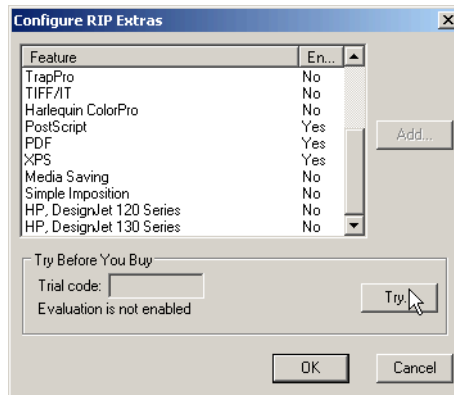

Figure 3 Configure RIP Extras dialog
1. Select Harlequin RIP > Configure RIP > Extras, to open the Configure RIP Extras dialog (Figure 3).